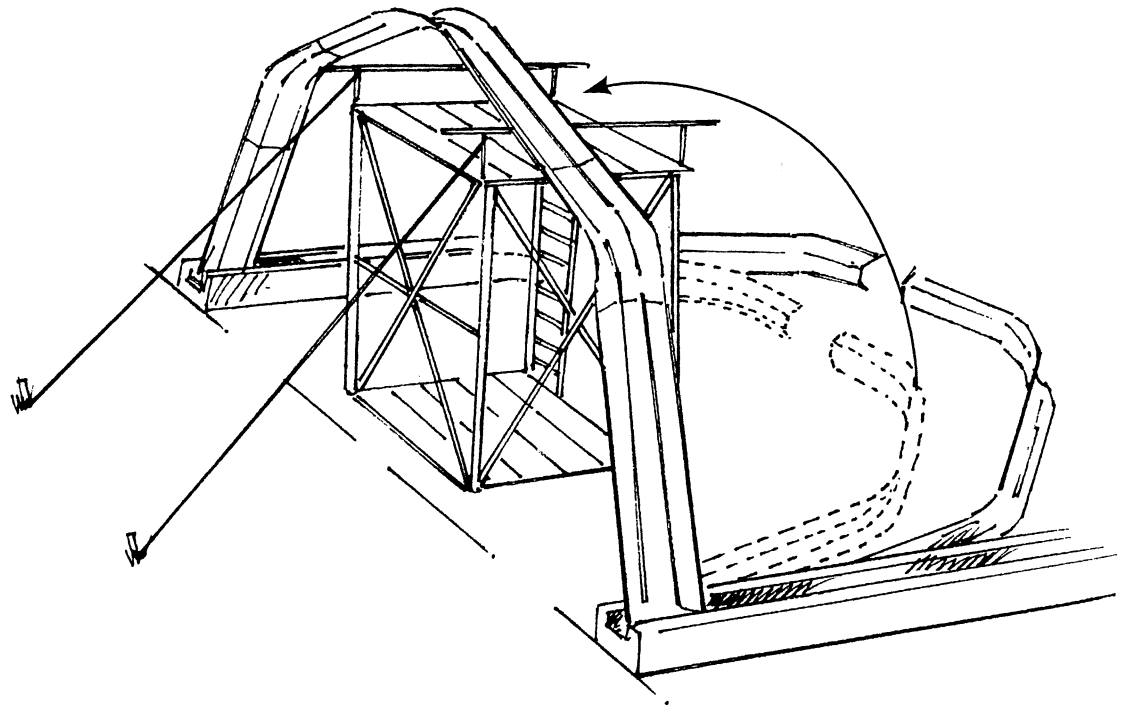

Fig. 31
6. Now raise the second half of the arch in the same fashion, guide it into position (see fig. 31) and bolt it to the first half.